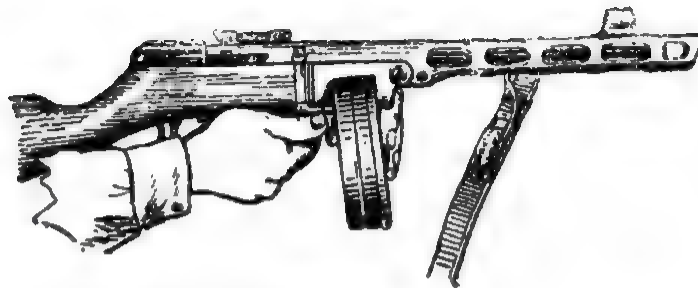

Figure 33. How to remove the magazine.
1. **Remove the magazine** (figure 33). While holding the submachine-gun with your right hand ahead of the trigger, press the stock to your side with your elbow. Push the magazine catch forward with your right thumb and remove the magazine from the magazine opening